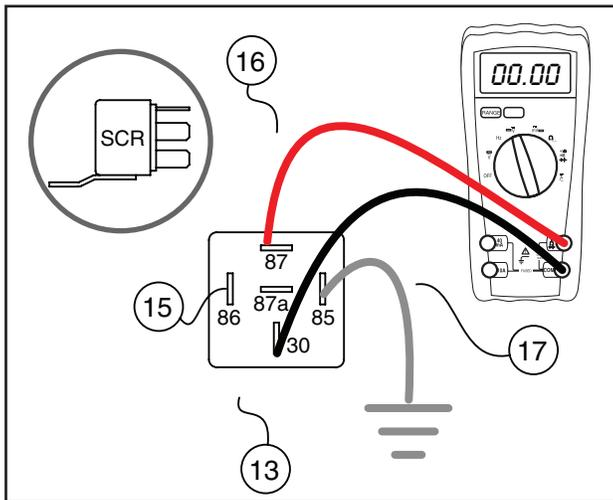

Figure 6-35. – Starter Contactor Relay Test
- Connect the meter leads across Terminal 87 and Terminal 30 of the SCR. See Figure 6-35.
- Connect a jumper wire from Terminal 85 to ground. The relay should energize and the voltmeter should read continuity. See Figure 6-35.